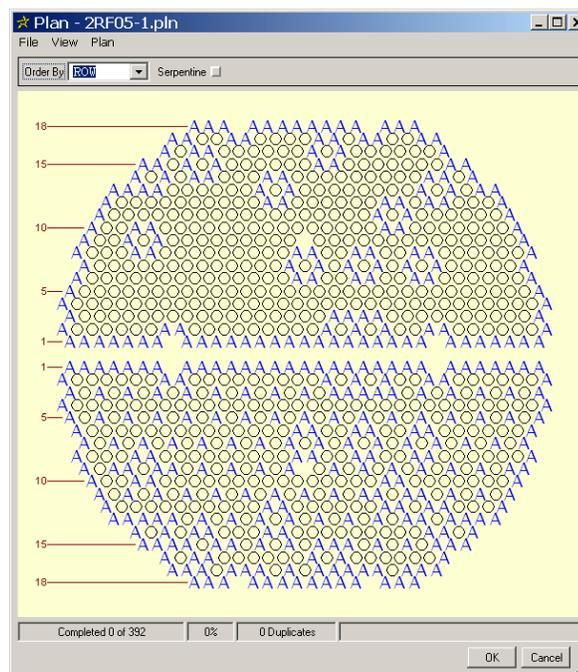

Figure 10-3. Plan Dialog with Plan Loaded in Acquisition
STEP 6: Click **Open**. The planned tubes appear with a blue letter "A" over each one as shown in Figure 10-3.